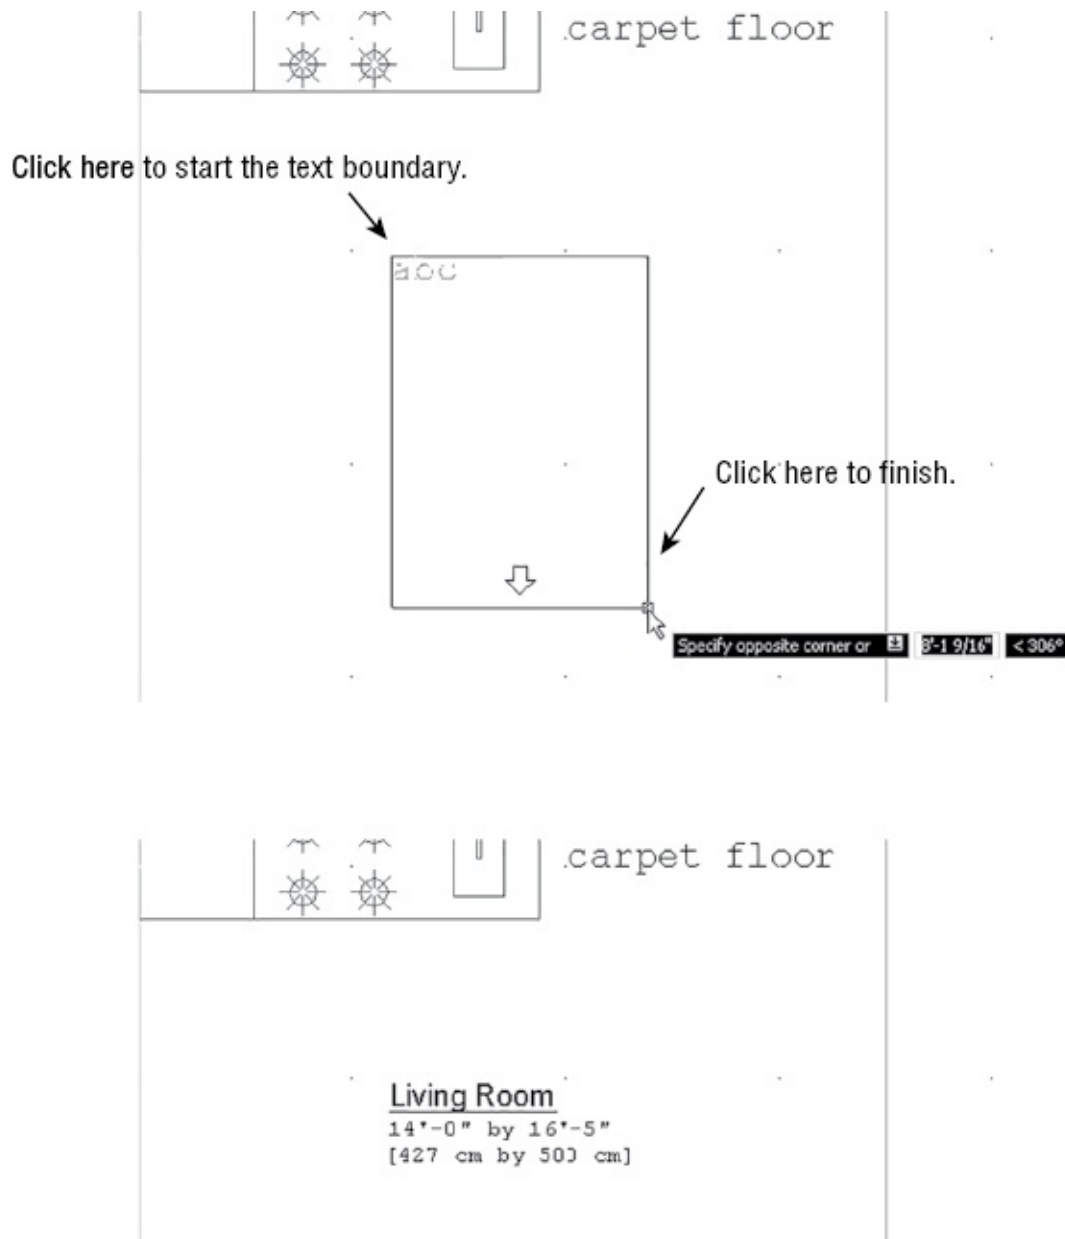

FIGURE 9.8 Placing the text-boundary window for the living-room label and the final label
1. Pan your view so that the kitchen is just at the top of the drawing, as shown in the first image in Figure 9.8.
3. Click the Multiline Text tool on the Annotate tab's Text panel, and then select a text boundary window, as shown in the first image in Figure 9.8.
1. Click Close Text Editor in the Close panel. The label appears in the area you indicated in step 3 (see the bottom image in Figure 9.8).